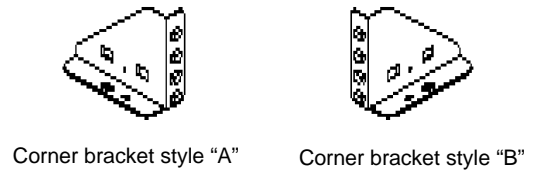

Figure 1
2. Each Adjustable Shelf is supplied with four **Corner Brackets**, (2) style "A" and (2) style "B". See **Figure 1**.